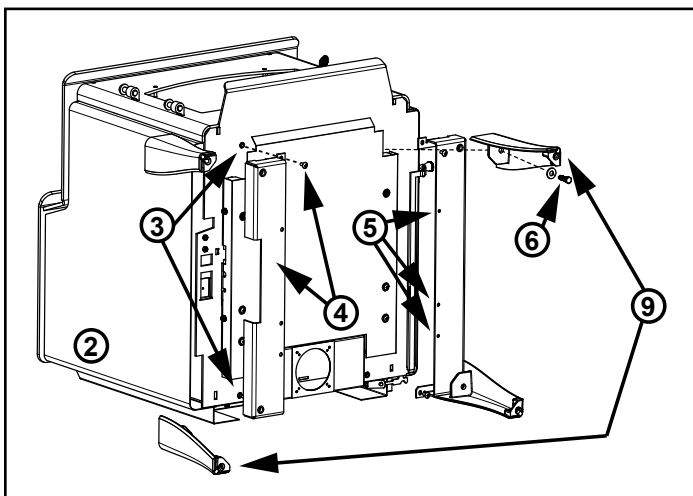

Figure 25.1
3. Remove four screws from bottom of appliance (**Figure 25.1**).
**NOTE:** There is a right and a left of the leg brackets (**Figure 25.1**).
5. Install six screws to the bottom of the leg brackets (**Figure 25.1**).
**NOTE:** Legs with leveling bolts need to be on opposite sides of the appliance - one in the front and one in the back (**Figure 25.1**)